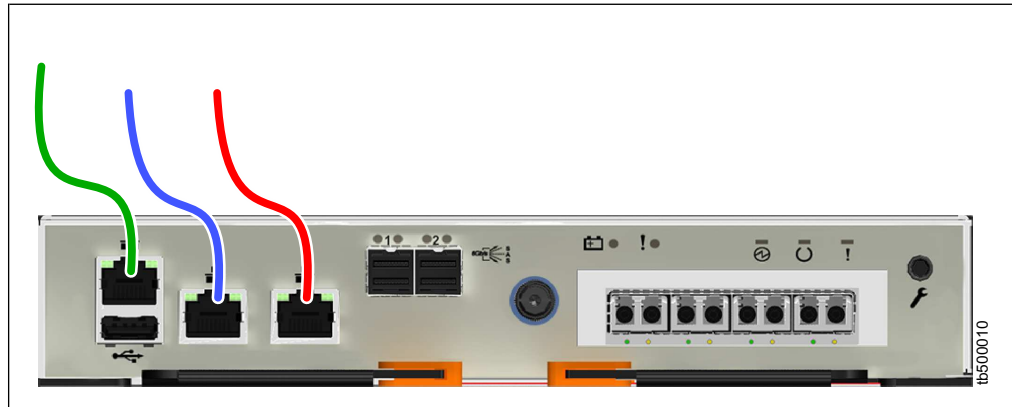

Figure 112. Connecting the Ethernet cables to a Storwize V5030 system
- a. Identify the location and function of the Ethernet ports on your system; refer to Figure 112 on page 133.
- The technician port should only be used to initialize or service the system. In Figure 112 on page 133, the technician port is identified by the green cable.
- b. Connect Ethernet port 1 of each Storwize V5030 node canister in the system to the IP network that will provide a connection to the system management interfaces. Figure 112 on page 133 shows the port locations and Ethernet cabling on a Storwize V5030 node canister.
- c. Optionally, connect Ethernet port 2 of each node canister in the system to a second IP network, as shown by the red cable connection in Figure 112. Port 2 can provide a redundant connection to the system management interfaces. Port 2 can also be used for iSCSI connectivity to the system by hosts on the network. If more than one control enclosure is present in the system, ensure that port 2 of every node canister is connected to the same network to provide access if the configuration node fails.